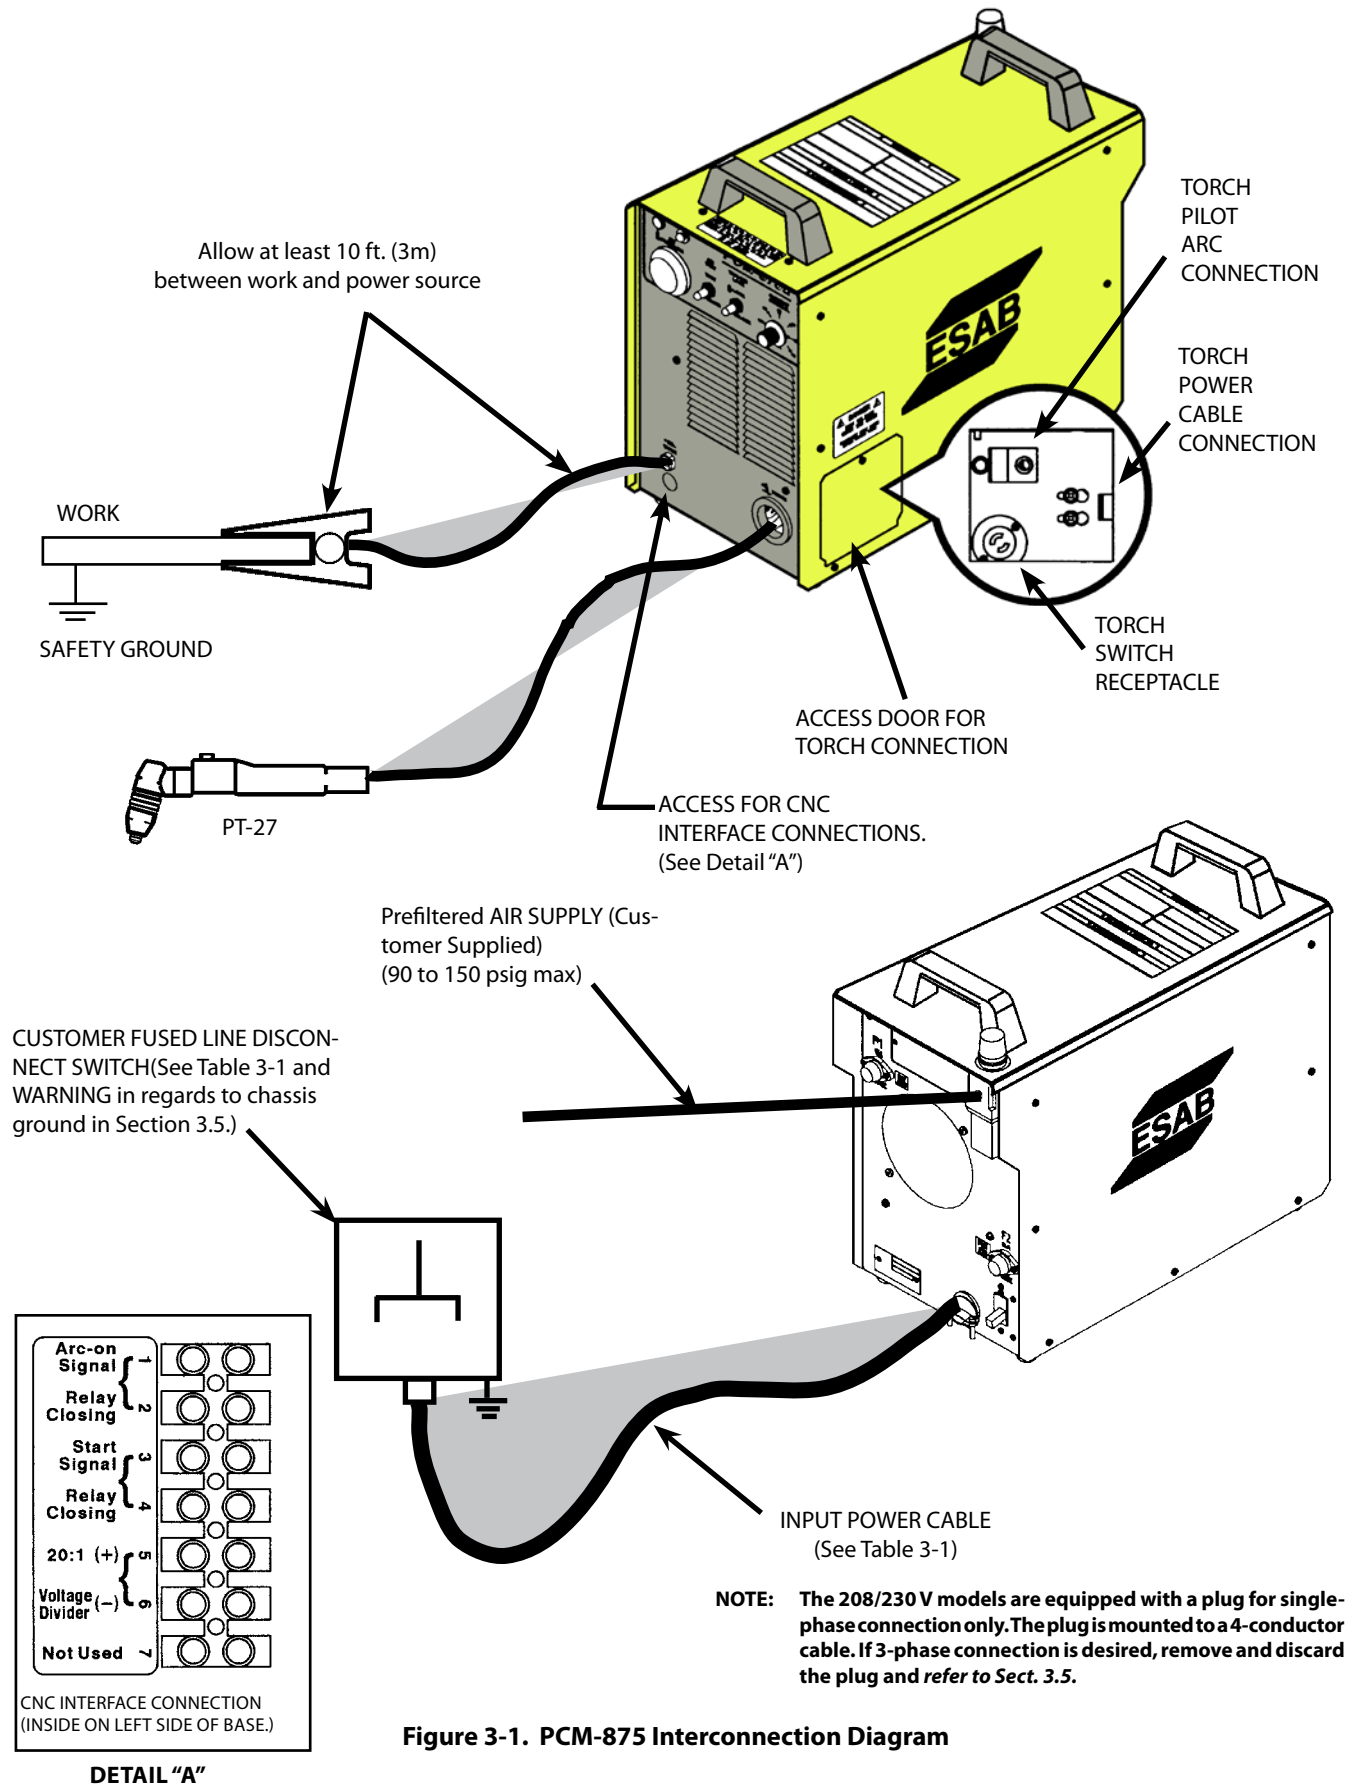

Figure 3-1. PCM-875 Interconnection Diagram
3.5 PRIMARY ELECTRICAL INPUT CONNECTIONS (FIGURE 3-1)
A line (wall) disconnect switch with fuses or circuit breakers should be provided at the main power panel (see Fig. 3-1 and Table 3-1 for fuse sizes). The input power cable of the console may be connected directly to the disconnect switch or you may purchase a proper plug and receptacle from a local electrical supplier. If using plug/receptacle combination, see Table 3-1 for recommended input conductors for connecting receptacle to line disconnect switch.
3.6 SECONDARY (OUTPUT) CONNECTIONS (REFER TO FIG. 3-1)